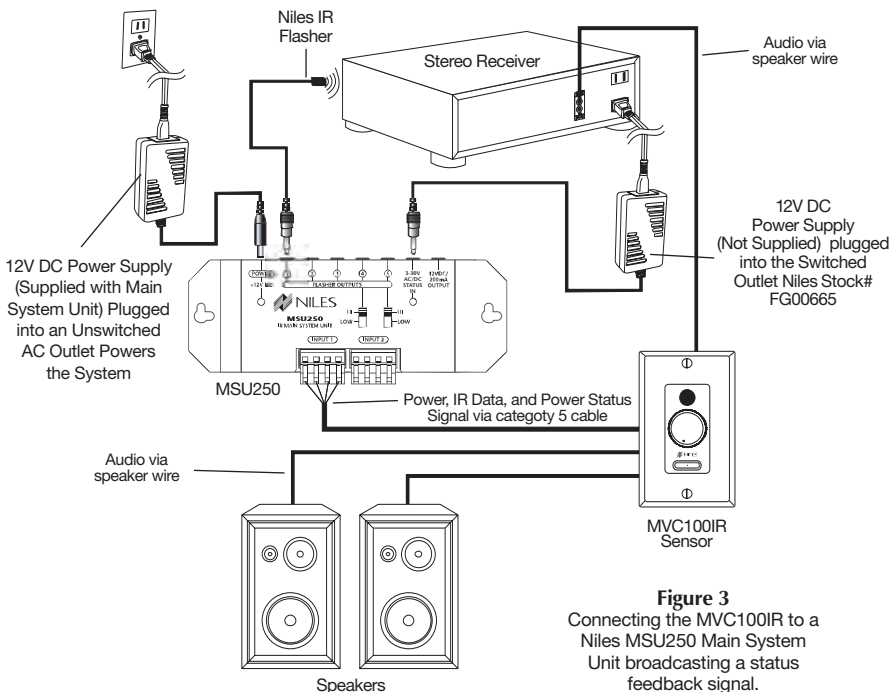
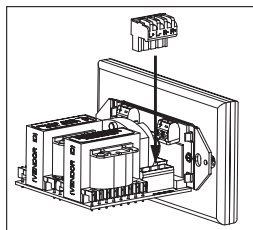
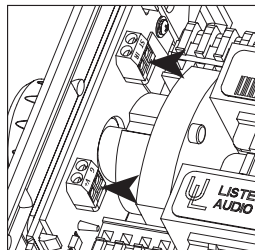

Figure 3
Figure 8
Figure 10
NOTE: Maintain proper phasing. Connect the positive terminals on the volume control to the positive terminals on the amplifier and speakers, and connect the negative terminals on the volume control to the negative terminals on the amplifier and speakers. (Figure 3). To help you avoid improper phasing, the connector plug is keyed. Insert the smooth side of the connector plug into the smooth side of the socket. Don't force the scalloped side of the connector plug into the smooth side of the socket. (Figure 8).
5. Locate the dual 2 pin connectors (Figure 10). Strip 1/4" of insulation from the end of each wire and insert each wire into the appropriate hole on the connectors (ST, IR, G, V+). Use a small flathead screwdriver to tighten the screws in place.
7. Plug the connectors into the volume control as shown in figure 8. The inputs of the IM volume control are the connector pins labeled AMPLIFIER. The outputs are the connector pins labeled SPEAKERS.
8. Connect the 4 conductor sensor wiring between the volume control (Figure 10) and the main system unit’s sensor input. (Figure 3). Refer to the main system unit owner’s manual for complete connection information.